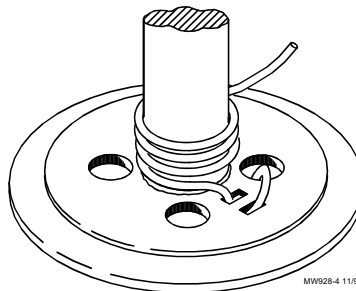

Figure 17. Cable Wrap on Drum
6. Attach one end of the 3/16" [4.8 mm] cable to the winch as shown in **Figure 17**. Unroll the cable along the length of the water line.